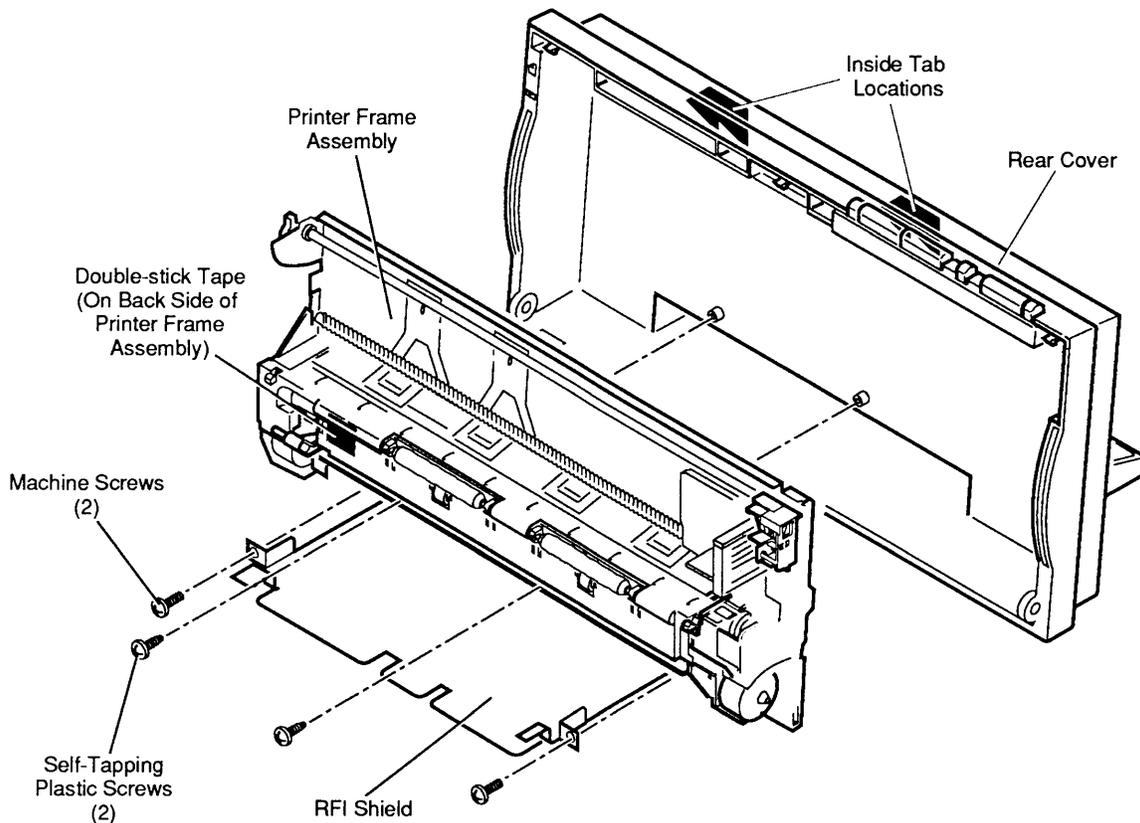

Figure 2-4 Printer Frame Assembly
2. Remove the four screws that secure the printer frame assembly to the rear cover (**Figure 2-4**).
4. Lift the printer frame assembly down and out to free it from the tabs on the upper inside of the rear cover (**Figure 2-4**).
Note: Ribbon cables on replacement printer frame assemblies are taped to the assembly for shipping. Remove the tape carefully and press the cable onto the double-stick tape in the bottom-left corner of the assembly (**Figure 2-4**).
1. Slide the printer frame assembly up into the rear cover so that the metal top of the frame fits behind the plastic tabs on the top inside of the cover (**Figure 2-4**). Make certain that the connector ends of the operations panel cable and paper sensor cable are visible and hanging freely below the assembly.
2. Slide the RFI shield into place from the front of the printer (**Figure 2-4**). Route the large ribbon cable under the RFI shield and out the front.
3. Align the two screw holes on the printer frame with the two screw holes on the RFI shield and the two screw holes on the rear cover. Replace the four screws (**Figure 2-4**).